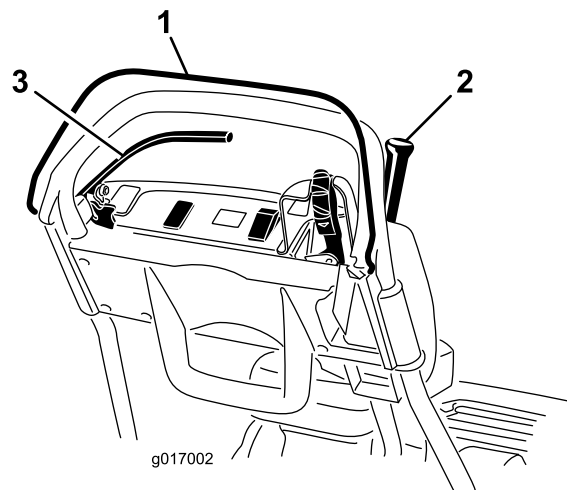

Figure 27
3. With the OPC released, attempt to engage the traction lever (Figure 27). The traction lever should not engage.
4. With the OPC depressed and the traction lever engaged, release the OPC (Figure 27).
5. With the OPC depressed and the shift lever moved to the left, engage the traction and reel drive, release the OPC (Figure 27).
6. With the OPC depressed and the shift lever moved to the left to engage the traction and reel drive, move the shift lever to the right to disengage the reel drive (Figure 27).
2. With the OPC depressed, the traction lever engaged and the engine controls in the starting position (Figure 27).
2. With the traction lever disengaged, the service brake engaged and the engine controls in the starting position (Figure 27).
4. With the engine running, engage the service brake (not the parking brake), depress the OPC and engage the traction lever (Figure 27).
5. With the engine running, engage the parking brake latch, depress the OPC and engage the traction lever (Figure 27).